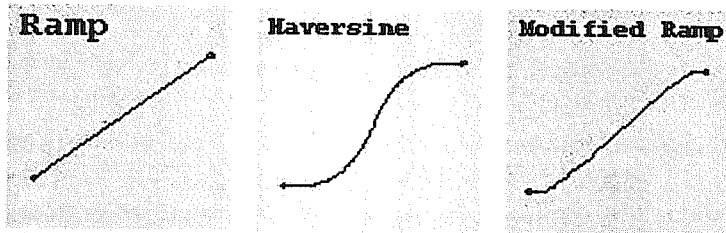

Figure 4-3. Command
The Test Procedure file is used to define the sequence in which the load conditions are to be applied. The Test Procedure screen, shown in Figure 4-3, allows for manually defining the individual test steps, each of which includes as a minimum:
Step 5: Enter the code for the command waveform in the Shape column. You may enter "H" for haversine, "R" for ramp, or "F" for modified ramp. You may use upper-case or lower-case letters. **Figure 4-3** shows available waveforms.